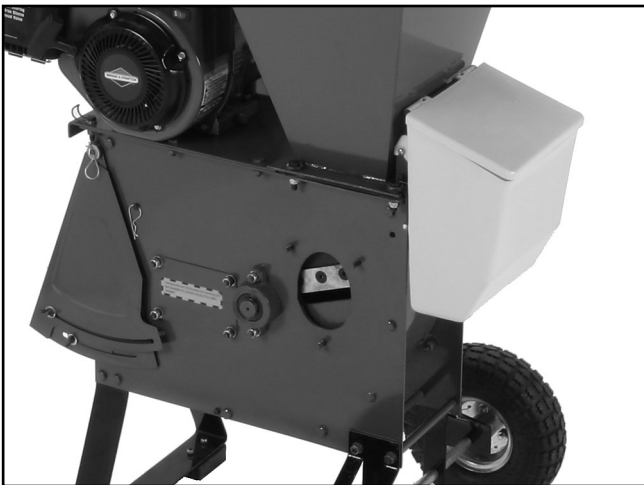

Figure 6. Attaching the hopper and toolbox.
5. Line up the holes in the toolbox with the remaining holes in the hopper and secure them with the same combination of hex bolts, washers, and lock nuts as used in **Step 4** (see **Figure 6**).